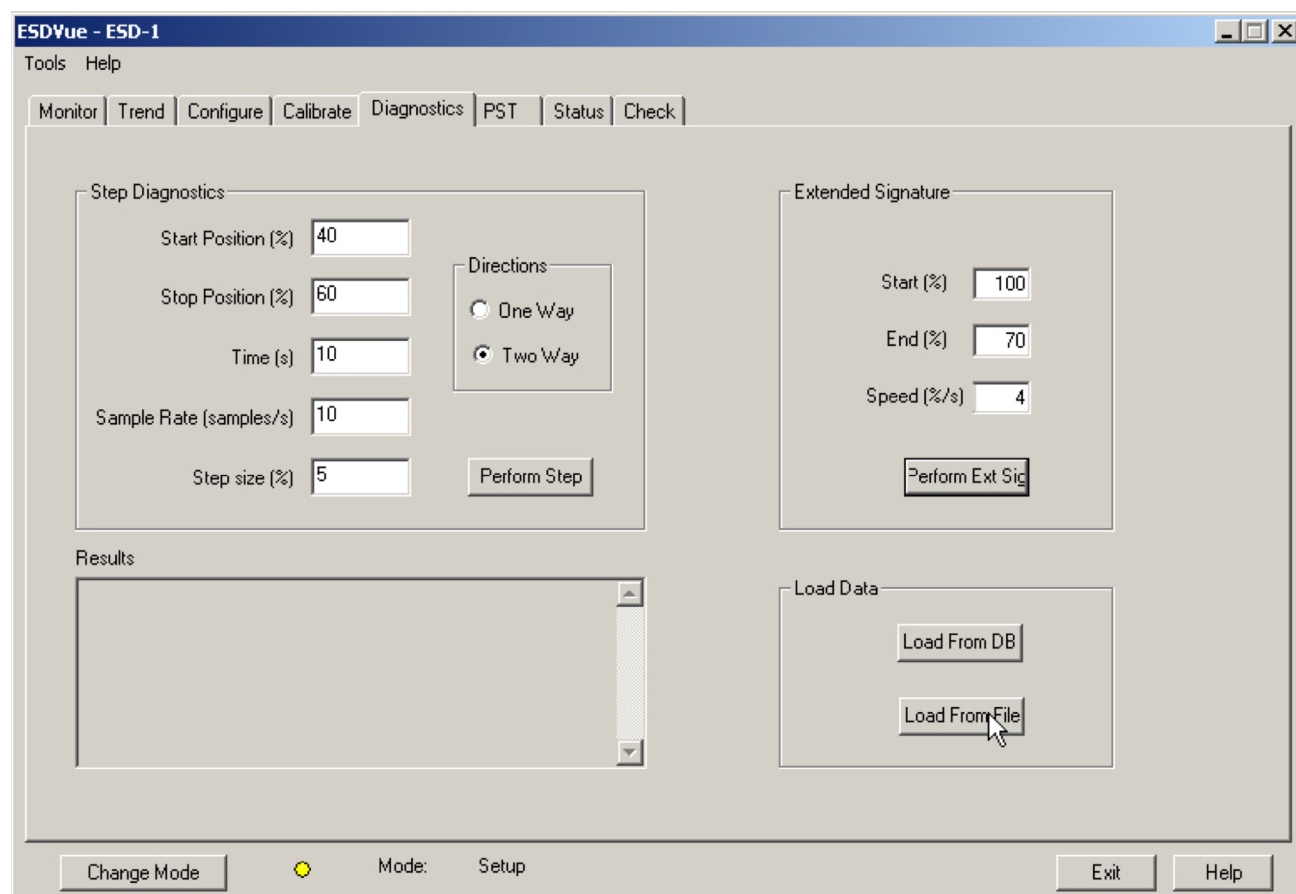

Figure 231 - Selecting Load From File
1. Click **Load From File** (Figure 231).